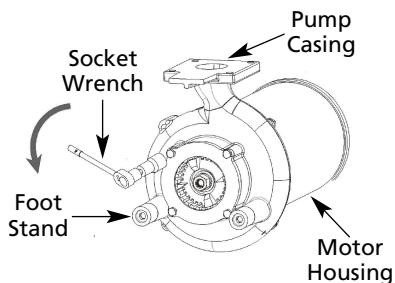

Figure 7
Refer to Figures 7 thru 12
- To clean out volute or replace the cutter and impeller disconnect power. Disconnect discharge piping. Dismantle the elbow using wrenches. (See Figures 7 and 8).